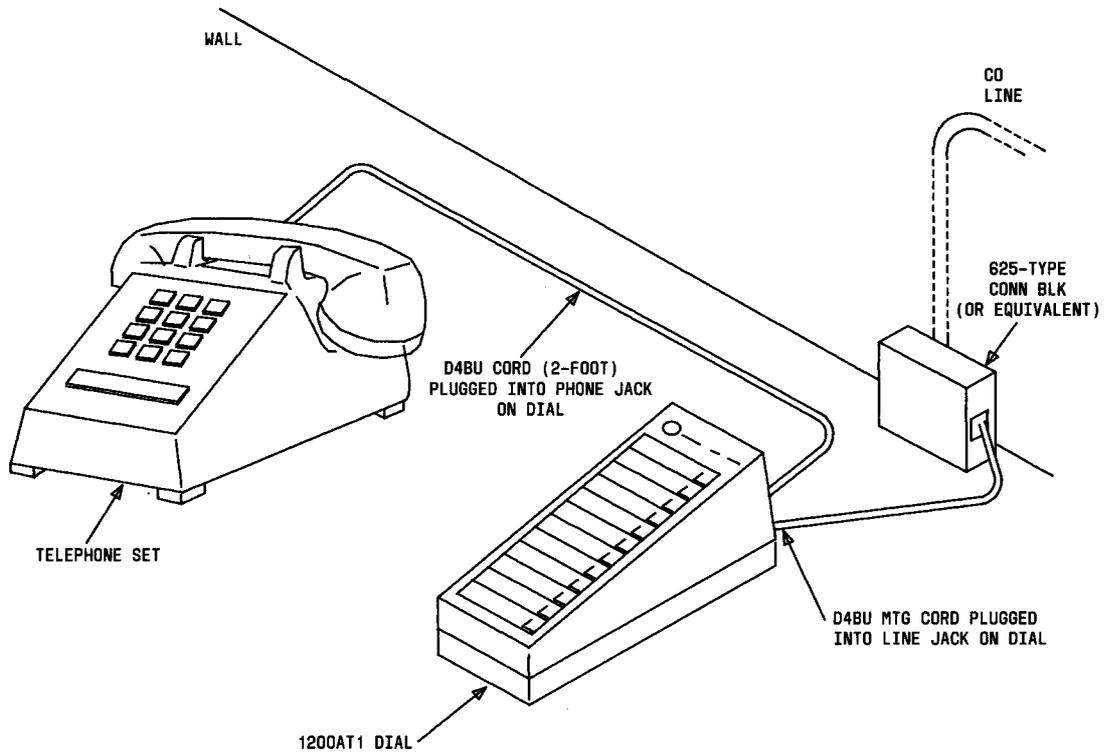

Fig. 3—Recommended Installation for Single Line Modular Desk Type Telephone Set
3.04 Plug one end of the standard D4BU mounting cord into LINE jack located under battery cover of the dial and other end into connecting block from CO. Plug one end of the two-foot D4BU telephone set mounting cord (furnished with the dial) into the PHONE jack on adjunct dial and plug other end of the cord into the telephone set mounting cord jack (Fig. 3).